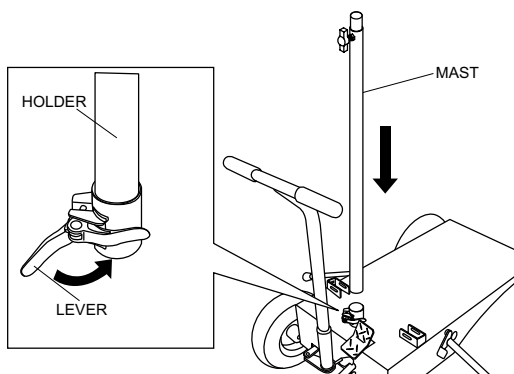

Figure 5. Inserting the Mast Into Holder
3. Insert the mast into the mast holder and secure with lever as shown in Figure 5.